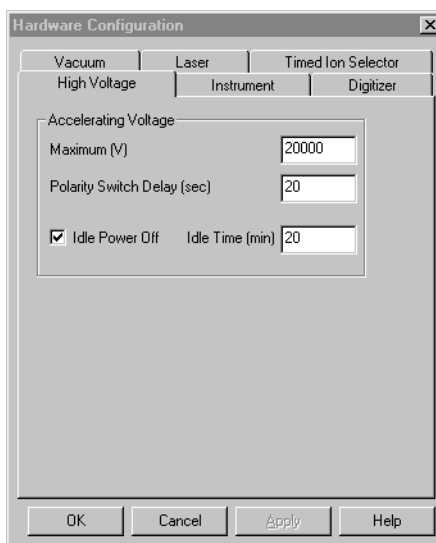

Figure 2-16 High Voltage Configuration
2. Click the **High Voltage** tab to display the High Voltage page (Figure 2-16).